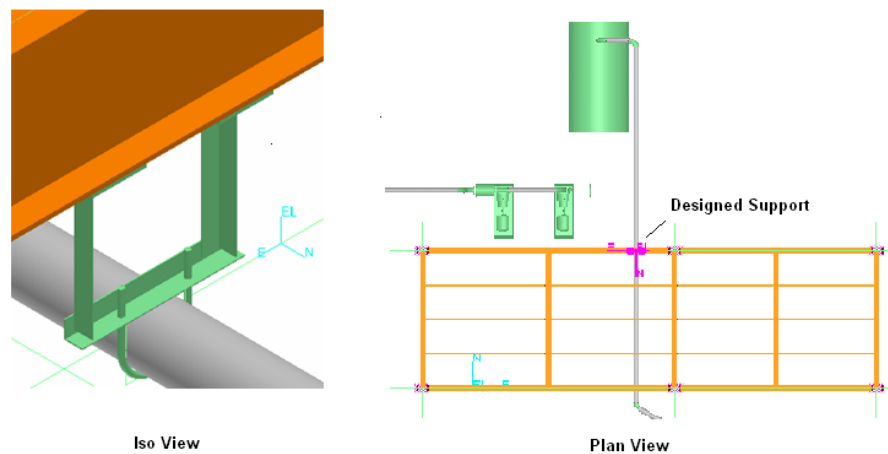

Figure 3: Final Output: Placed Designed Support U Bolt Anvil\_FIG137\_12
**Exercise Objective:** In this exercise you will be placing a support part, **Anvil\_FIG137\_12**, choosing the standard support as the parent. The resulting designed support is highlighted in Figure 3 (Isometric view **Looking South-West**).